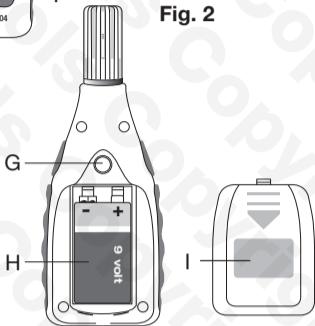
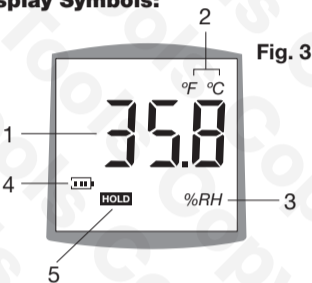

Fig. 2
Fig. 3
Refer to Fig. 2: Before using the device, open the battery door (press down in direction of arrow) and install the 9V PP3 battery. When battery indicator (4 in Fig. 3) shows battery is low (zero bars) then replace battery. Using the device with a weak battery may show incorrect readings.
6. You can measure temperature and humidity by holding the instrument in your hand, or by mounting on a tripod. Refer to G in Fig. 2 for position of tripod mount.